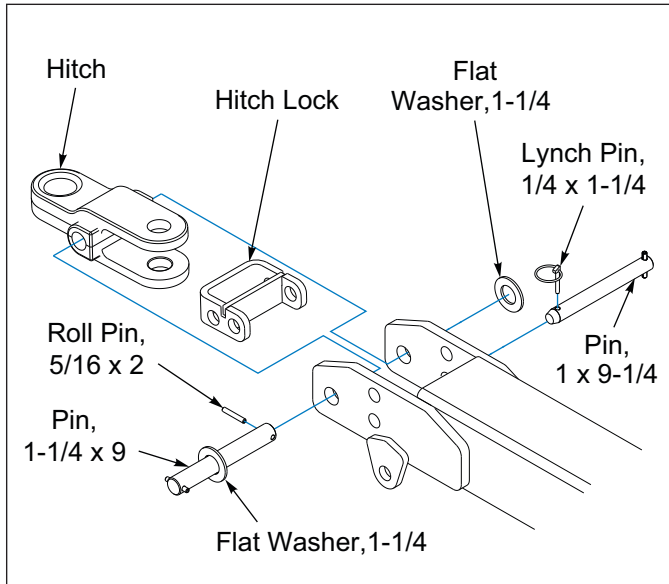

Figure 3-3: Spade Position
- In the **Spade Position** insert the Hitch Lock into the clevis end opening. Secure the Hitch Lock with 1 x 9-1/4 Pin and 1/4 x 1-1/4 Lynch Pin. **See Figure 3-3.**